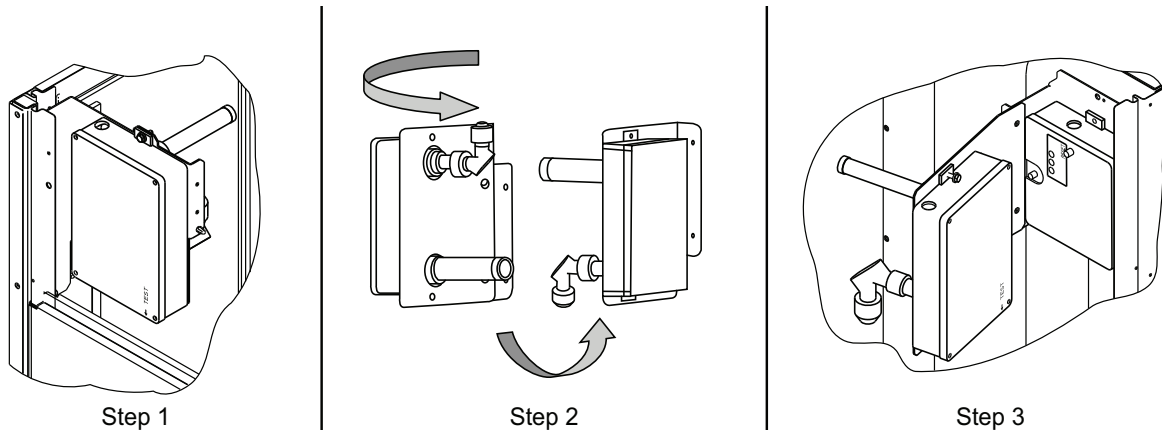

Fig. 62 — Completing Installation of Return Air Smoke Sensor
1. Unscrew the two screws holding the Return Air Smoke Detector assembly. See Fig. 62, Step 1. Save the screws.
2. Turn the assembly 90 degrees and then rotate end to end. Make sure that the elbow fitting is pointing down. See Fig. 62, Step 2.
3. Screw the sensor and detector plate into its operating position using screws from Step 1. See Fig. 62, Step 3.